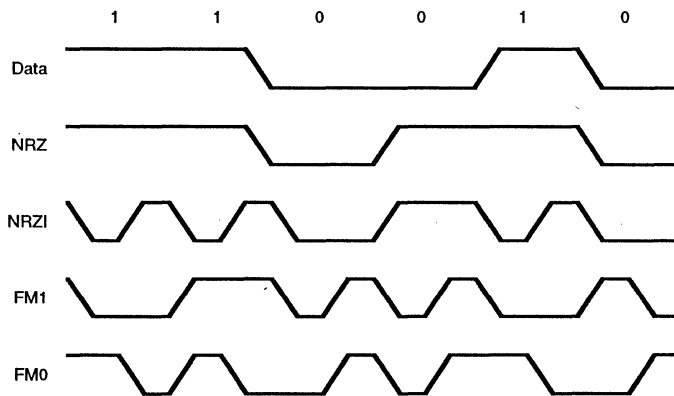

Figure 7. Data Encoding Methods
**Data Encoding.** The ISCC may be programmed to encode and decode the serial data in four different ways (Figure 7). In NRZ encoding, a 1 is represented by a High level and a 0 is represented by a Low level. In NRZI encoding, a 1 is represented by no change in level and a 0 is represented by a change in level. In FM1 (more properly, bi-phase mark), a transition occurs at the beginning of every bit cell. A 1 is represented by an additional transition at the center of the bit cell and a 0 is represented by no additional transition at the center of the bit cell. In FM0 (bi-phase space), a transition occurs at the beginning of every bit cell. A 0 is represented by an additional transition at the center of the bit cell, and a 1 is represented by no additional transition at the center of the bit cell. In addition to these four methods, the ISCC can be used to decode Manchester (bi-phase level) data by using the DPLL in the FM mode and programming the receiver for NRZ data. Manchester encoding always produces a transition at the center of the bit cell. If the transition is 0 to 1, the bit is a 0. If the transition is 1 to 0, the bit is a 1.